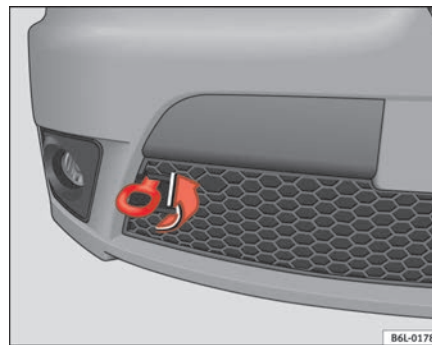

Fig. 174 Towing eye at the front of the vehicle
- Screw in the towing eye that is in the vehicle tool box*, turning it **to the left** until it is perfectly screwed in ⇒ fig. 174.